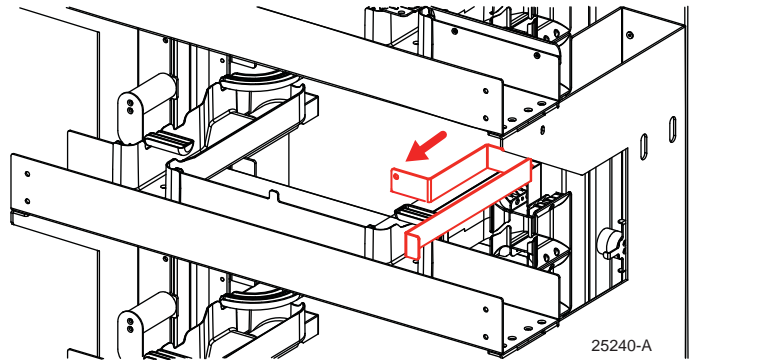

Figure 50. Removing the Vertical Cable Guide
1. On the rear side of the frame, remove the vertical cable guide by removing one #12 screw and washer holding the bracket in place. Set aside the screw and washer for use in installing the new bracket. Refer to Figure 50.